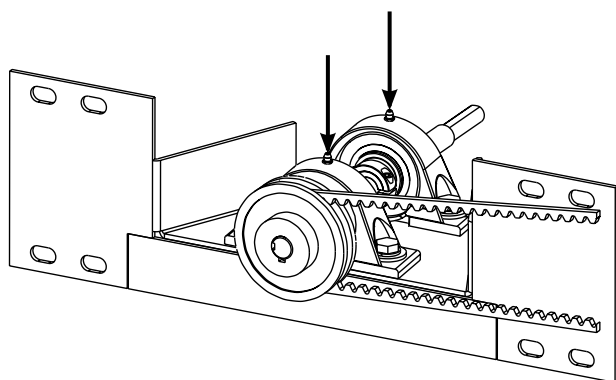

Figure 4-43.
Grease the two (2) main blower fan shaft bearings (Figure 4-43), using a special grease (MMP/N 17110-0015 lithium-base, high-temperature grease). ONLY ONE STROKE of a grease gun is required for each bearing.